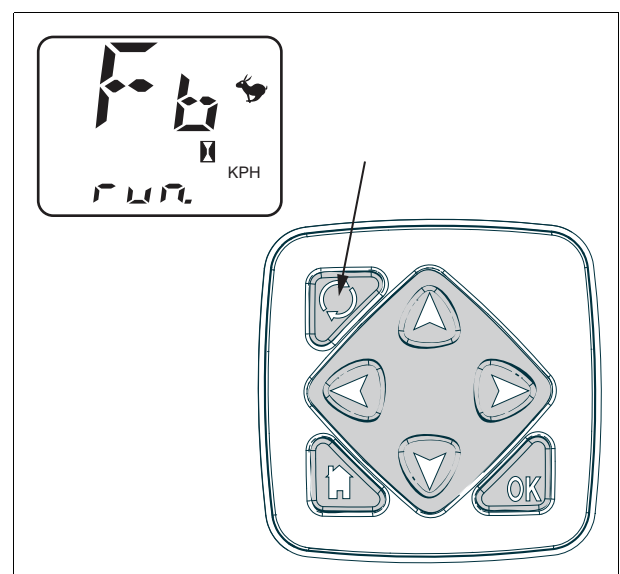

Fig. 12.
6. "run" should appear on the screen fig. 12.